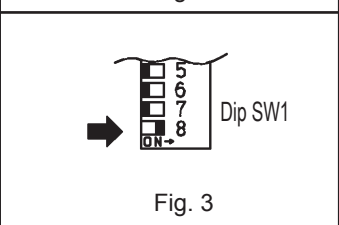

Fig. 3
- Move switch 8 of Dip SW1 to ON. Figure 3.